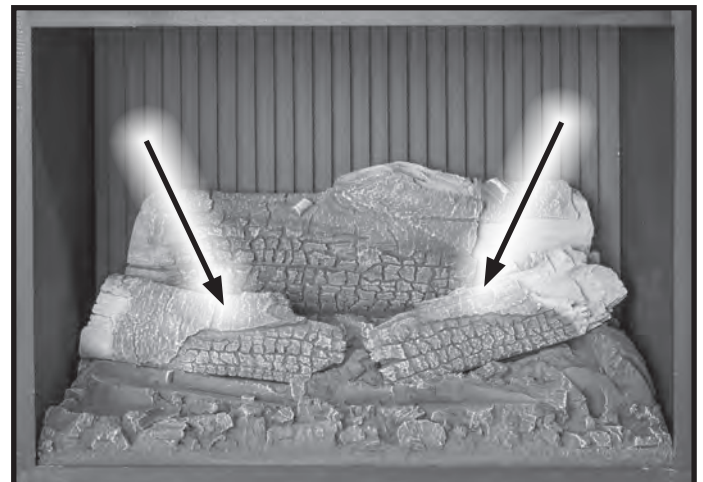

Figure 40. Rear Ember Bed Logs.
4. Next, Install the two large flat bottomed logs in the middle of the ember bed as shown in Figure 40.